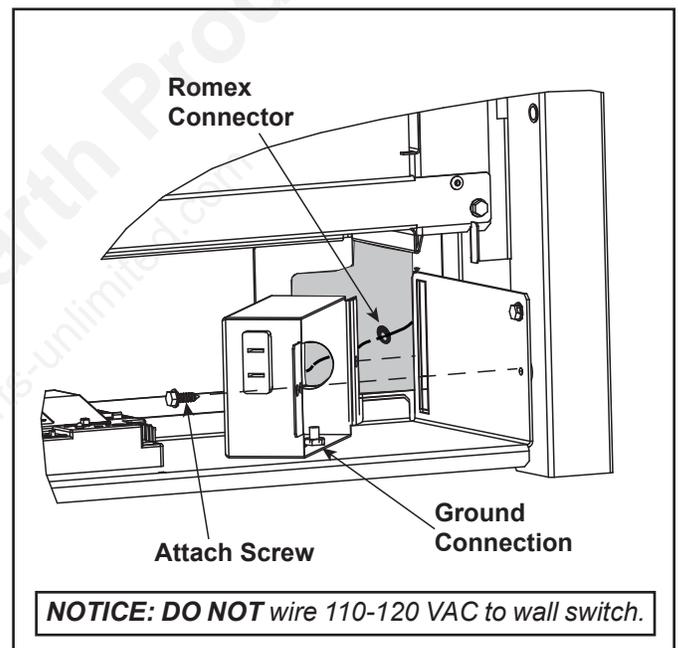

Figure 8.1 Junction Box Detail
- Remove the screw attaching the junction box/receptacle. Rotate the junction box inward to disengage it. See Figure 8.1.
- Pull the electrical wires from outside the appliance through the opening into the valve compartment and secure wires with a Romex connector. See Figure 8.1.